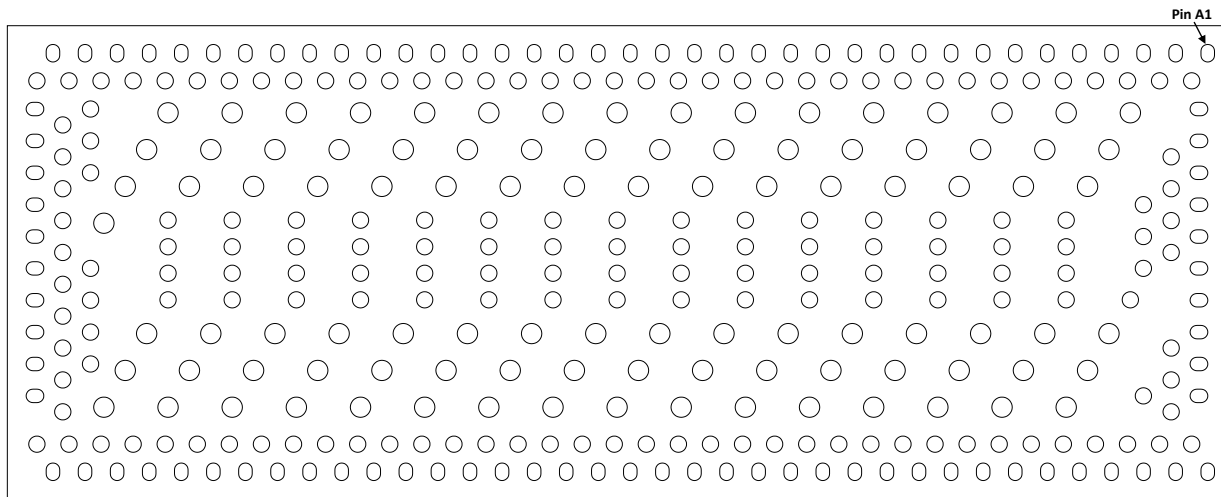

Figure 5-2: Package Land Pattern
Figure 5-2 shows the top view of the platform-side land pattern for the PT5161LC.
Asteralabs recommends keeping the solder paste aperture the same size as the land pads, shown in Figure 5-2 and using metal-defined (MD) pads rather than solder-mask-defined (SMD) pads.